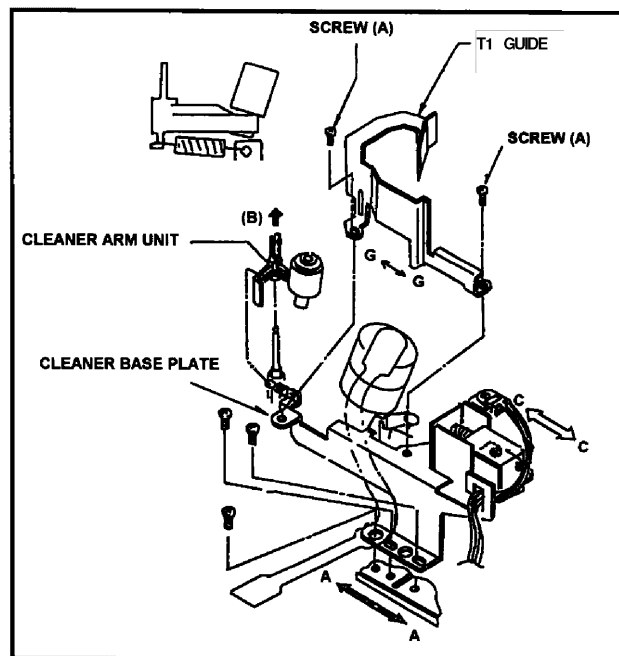

Fig.M18
2. Unscrew the 2 screws(A) to remove the T1 Guide.
3. Pick up the tip portion(B) of Cleaning Arm Unit and remove the spring from Cleaner Arm Unit. Then remove the Cleaning Arm Unit as shown in Figure M18.